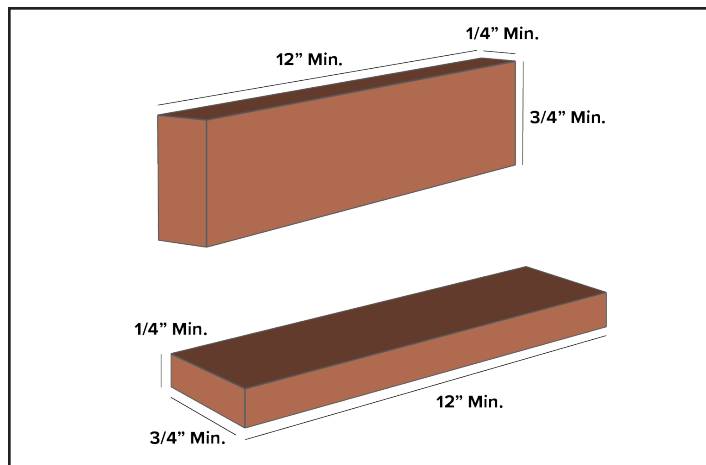

Figure 28: Minimum Dimensions for Jointing.
Please consult Figures 28 and 30 to verify that your workpiece dimensions comply with the specified minimum requirements before commencing machine operations. This precautionary measure is vital to maintain operational safety and the integrity of both the workpiece and the machine.
- For planing the face of a plank or a workpiece up to 3" thick, lower the cutterhead guard to just above the workpiece. Adjust the guard to distances not exceeding the recommended dimensions (FIG. 28):
- Rear edge (A): Workpiece maximum distance 1/8" (3mm).
- Front edge (B): Workpiece maximum distance 3/32" (2mm).